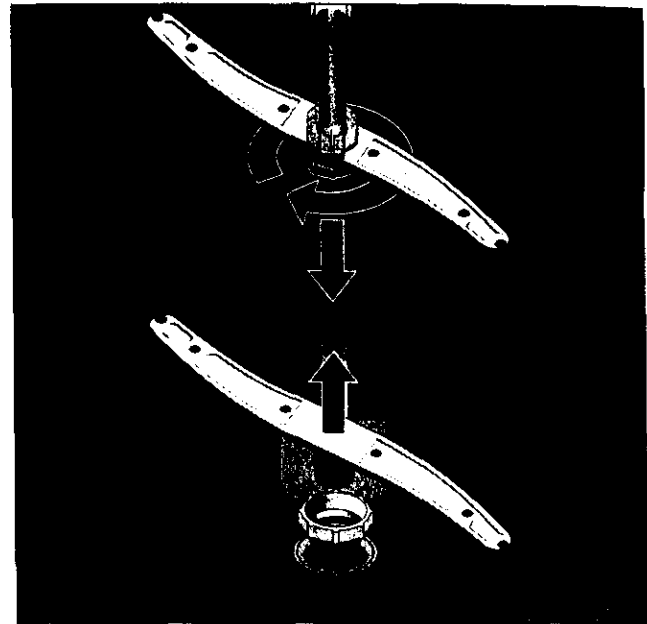

Figure 17.
- > The upper wash arm is held in position by a locking ring that can be released by turning it approximately  $\frac{1}{8}$  turn. See figure 17.